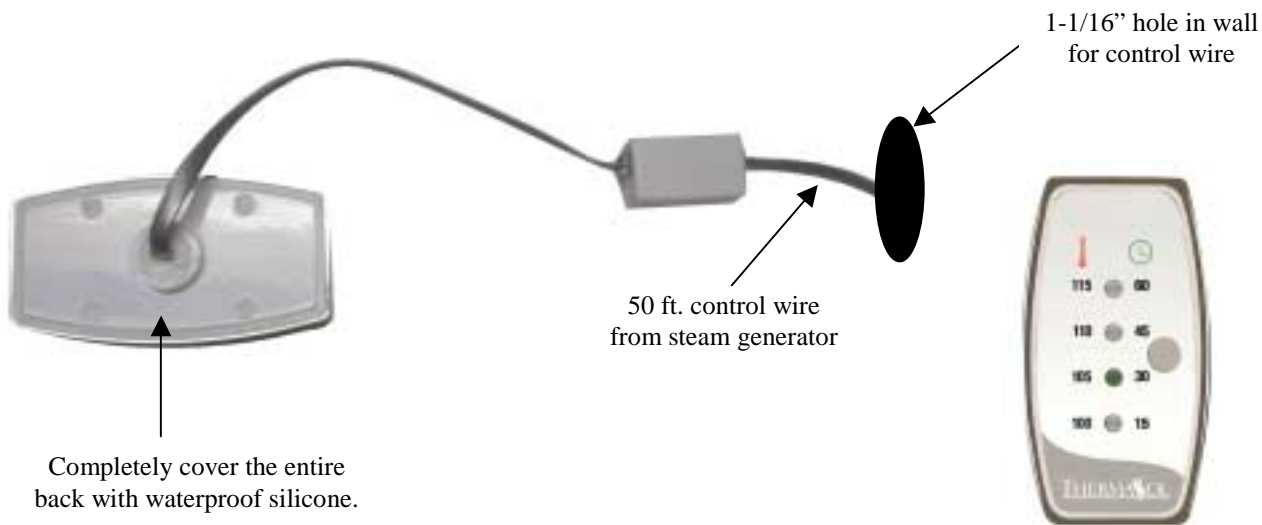

Figure 1
7. **THESE STEPS MUST BE TAKEN OR YOUR WARRANTY WILL BE VOID.** Coat the entire control back with supplied waterproof silicon. Completely seal the control to the wall so moisture does not get behind it. Place the control on the wall pressing firmly. You may need to tape the control into place until the silicone dries. Be careful not to harm the wall and/or control with the tape. (Figure 1)